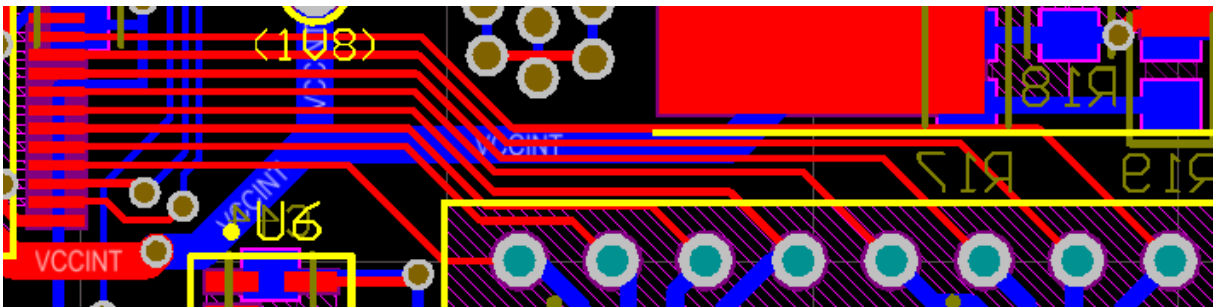

Figure 7. Results of applying Gloss command
11. The Glossing tool will straighten up and remove unnecessary track vertices in a routed path, Figure 7.